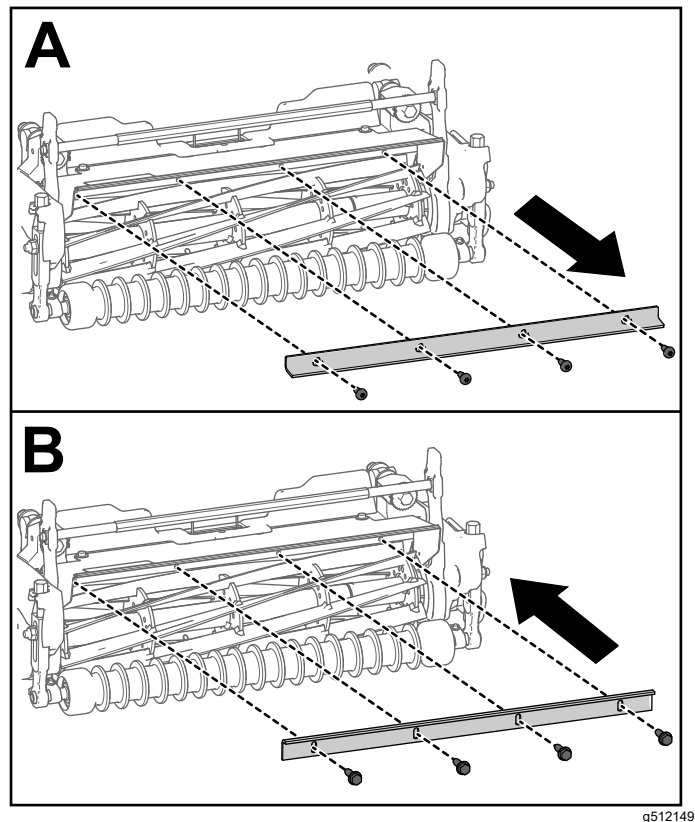

Figure 5
- If Cutting Unit Models 04657 and 04658 are used on any other Greensmaster 3300 or 3400 traction unit, remove the grass-deflection bar and replace it with cut-off bar (Part No. 115-3303-03) and 4 bolts (Part No. 131-6150) as shown in Figure 5.